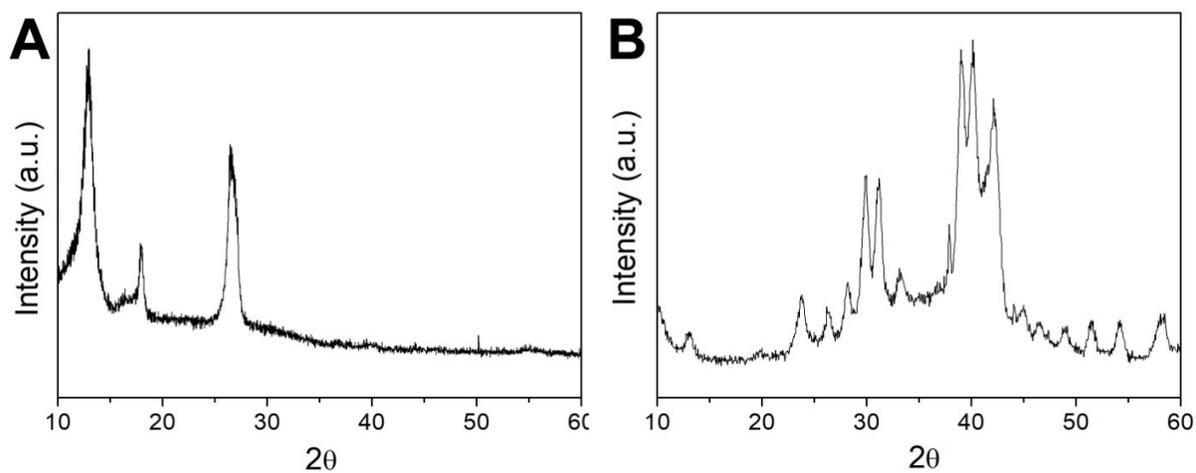

Figure S1. XRD spectra of TeNW (A) and Ag₂TeNW (B), respectively.
Figure S4. EDS analyses of silver telluride nanowires converted from TeNW film through chemical transformation. The stoichiometries of the samples are $\text{Ag}_{0.08 \pm 0.06}\text{Te}$ (A), $\text{Ag}_{0.24 \pm 0.12}\text{Te}$ (B), $\text{Ag}_{1.67 \pm 0.16}\text{Te}$ (C), and $\text{Ag}_{1.99 \pm 0.17}\text{Te}$ (D) corresponding to the TEM images in Fig. S1, respectively.